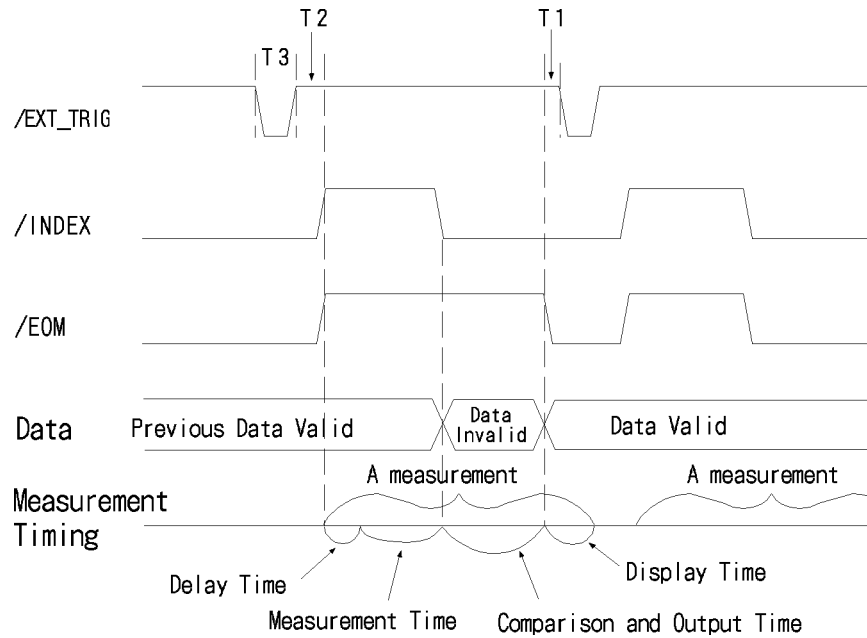

Figure 4-5. Timing Diagram (Mode 1)
Figure 4-5 shows timing diagram for mode 1.
- See Figure 4-5 for description of T1, T2, and T3.